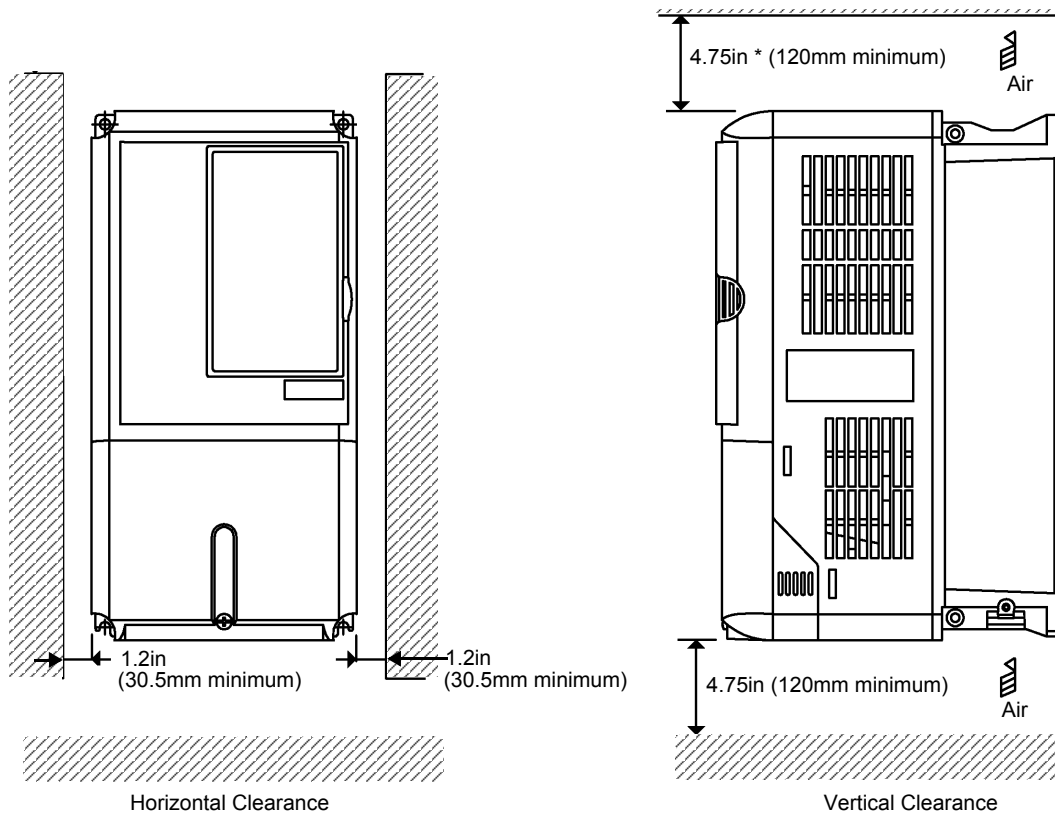

Figure 2-2
6. Ensure that the air can flow freely around the heat sink as shown below in Figure 2-2.